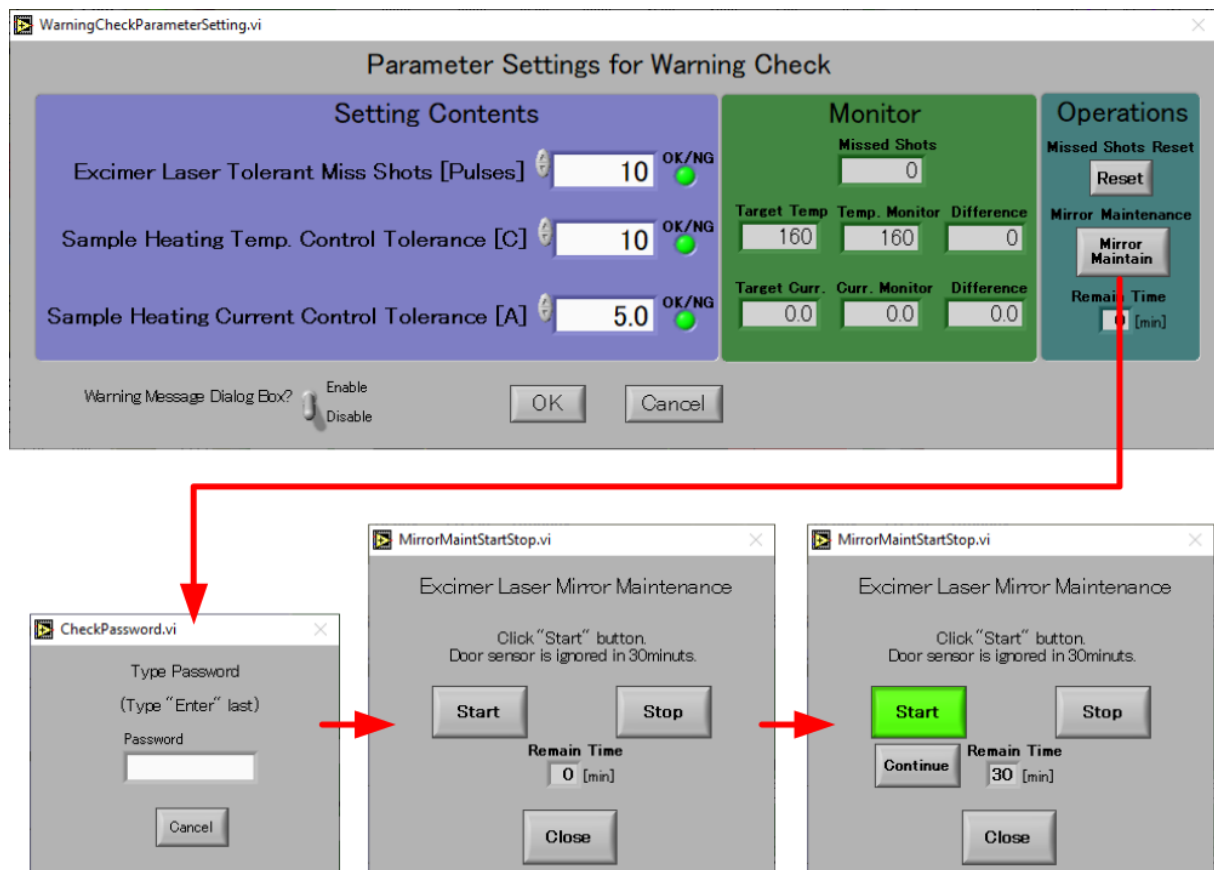

Figure 1: Operation steps to open the laser shield on PC control software.
- (1) Stop laser emission to approach laser beam path.
- (2) Open a laser-shade with canceling interlock function in PLD control software (see Figure 1).